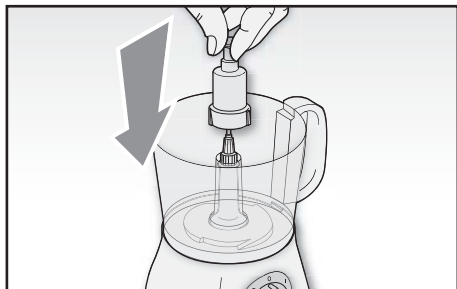

Fig. 4
- 3 Install the knife support (D) on the motor shaft (C) inside the bowl (P) (Fig 4).